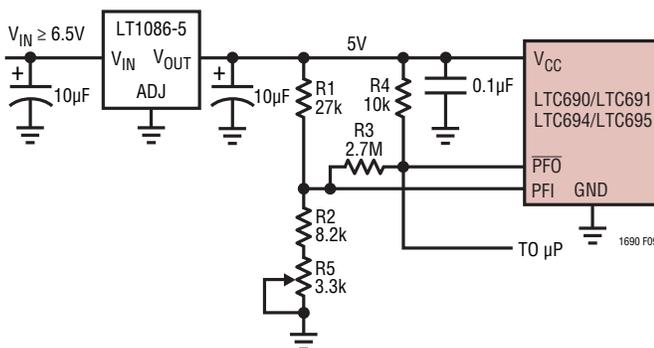

Figure 9. Monitoring *Regulated* DC Supply with the LTC690's Power-Fail Comparator
**Example 2:** The circuit in Figure 9 can be used to measure the regulated  $5V$  supply to provide early warning of power failure. Because of variations in the PFI threshold, this circuit requires adjustment to ensure the PFI comparator trips before the reset threshold is reached. Adjust  $R5$  such that the  $\overline{\text{PFO}}$  output goes low when the  $V_{\text{CC}}$  supply reaches the desired level (e.g.,  $4.85V$ ).